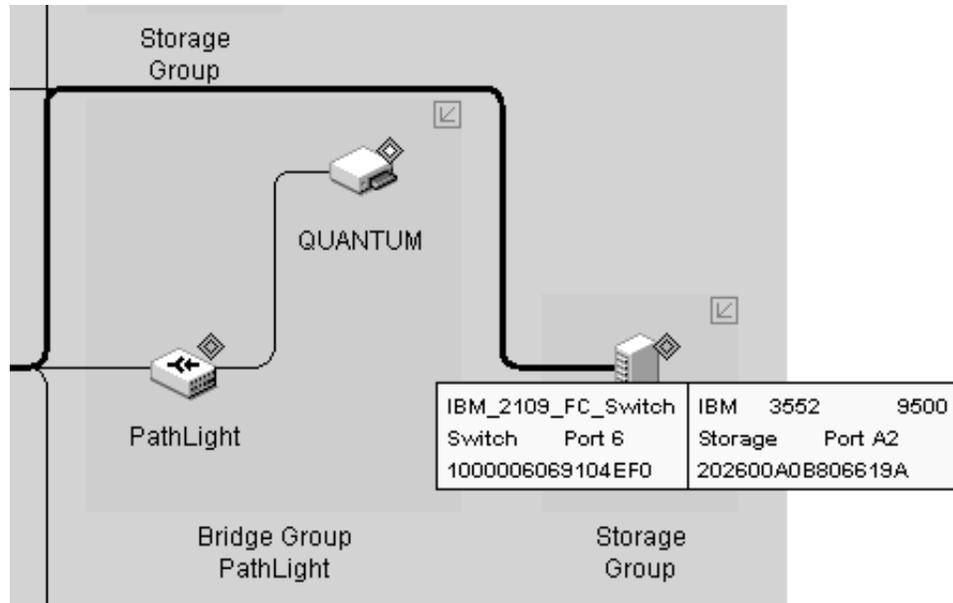

Figure 100. Device Tip
- Determine the source and destination of a connection through the Device Tip. The Device Tip, shown in Figure 100 on page 237, pops up when you place the cursor over the selected connection.